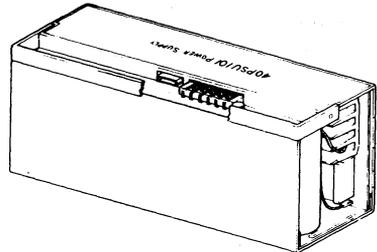
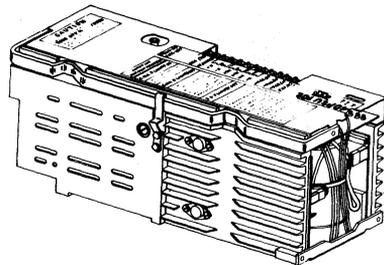

Fig. 1—40PSU101 Power Supply
Fig. 2—40PSU102 Power Supply
1.01 This section provides testing and troubleshooting information for the major components of the DATASPEED 40PSU101 (Fig. 1) and the DATASPEED 40PSU102 (Fig. 2) power supply units.